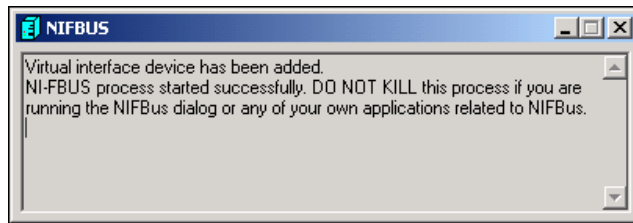

Figure 3-2. Starting the NI-FBUS Offline Communications Manager
5. To start the NI-FBUS Offline Configurator, select **Start»Programs»National Instruments»NI-FBUS»NI-FBUS Configurator**. When a dialog box appears, click **Off-line Mode** to start NIFB.EXE with the offline mode as shown in Figure 3-2.